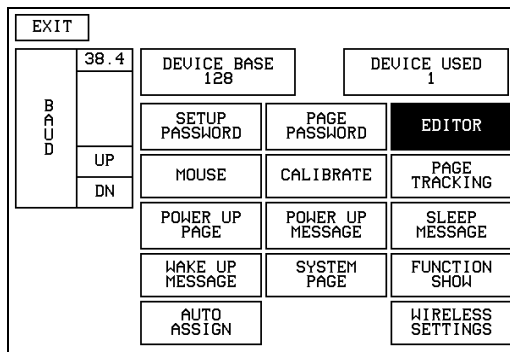

FIG. 13 Protected Setup page with the active EDITOR button
4. Press EDITOR to enable Edit mode. The EDITOR button is highlighted in the Protected Setup page when enabled, as shown in FIG. 13.
Press the DEVICE BASE option, in the Protected Setup page (FIG. 13), to assign a base (starting) device address to the touch panel.
Use the DEVICE USED option in the Protected Setup page (FIG. 13) to assign a value for the number of devices being controlled by the touch panel.